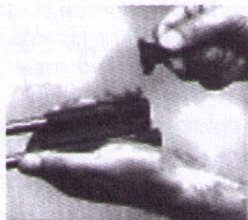

Fig. 32
- Insert cocking piece in the slide piece body (Fig.32).